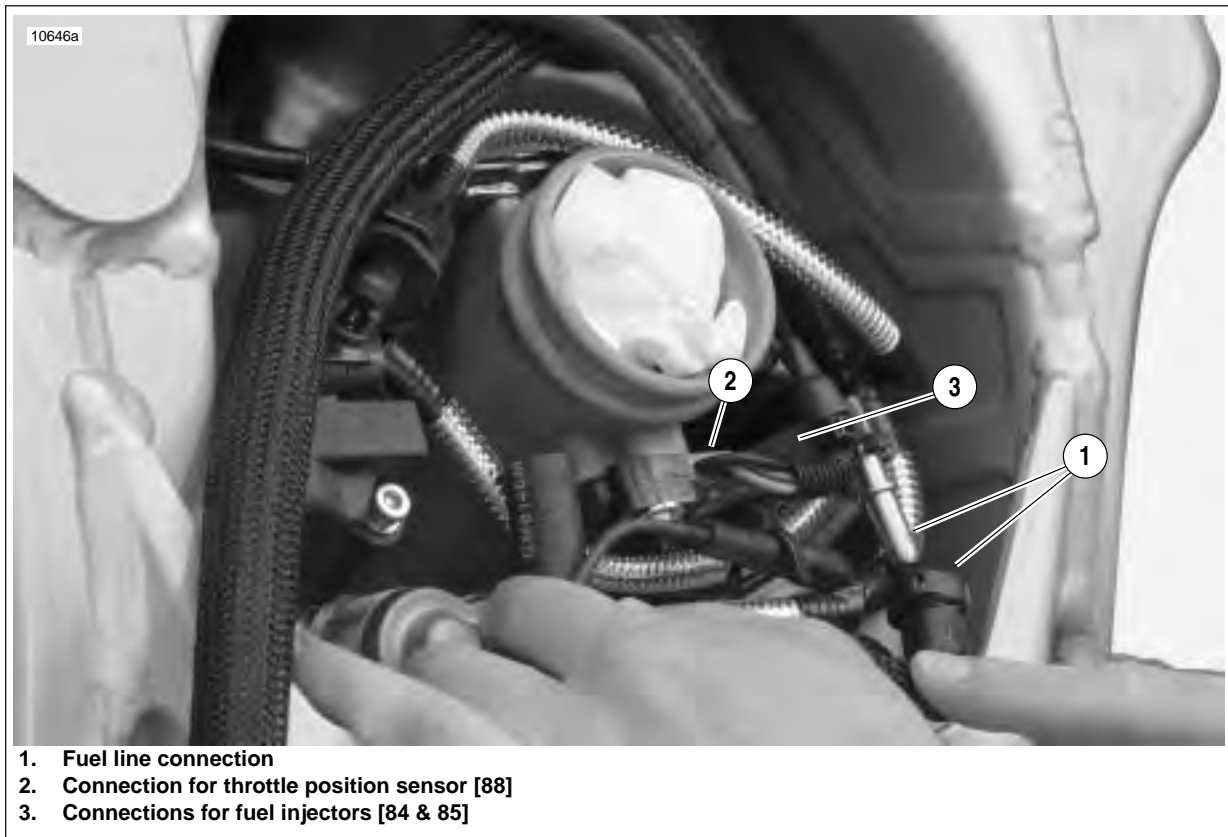

Figure 3-13. Fuel Line and DDFI Electrical Connections (Typical)
6. See Figure 3-13. Disconnect fuel line (1).
7. Disconnect throttle position sensor (2) [88].
8. Disconnect fuel injector leads (3) [84 & 85].